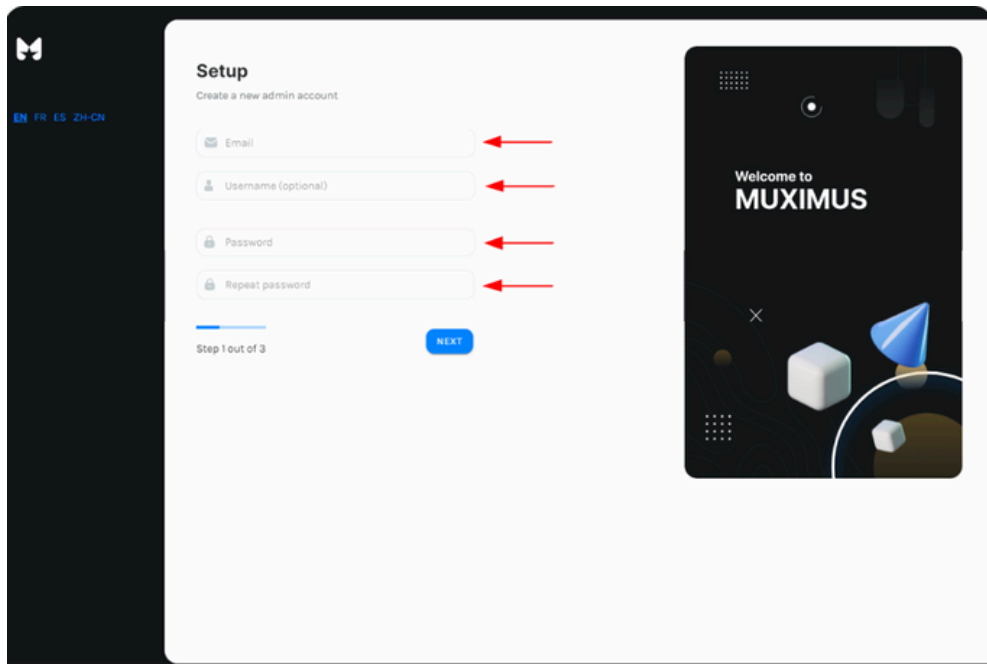

Figure 5
6. in order to create a new administrator account, please enter the required information (email, user name and password). Figure 5